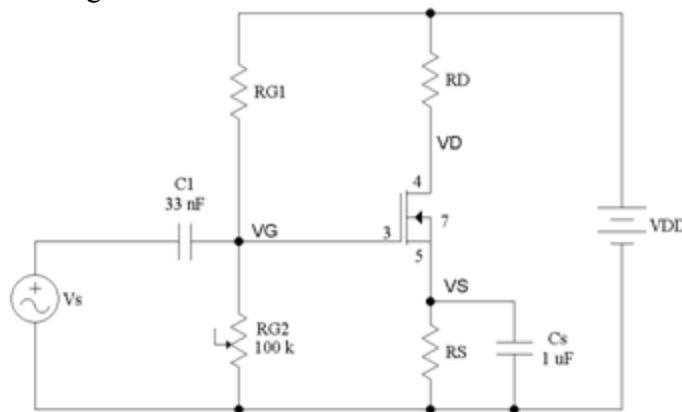

Figure 9.4
- Use Figure 9.4, find the value of the trans-conductance  $g_m$  and small signal output resistor  $r_o$ .
8. Build the circuit of Figure 9.4.